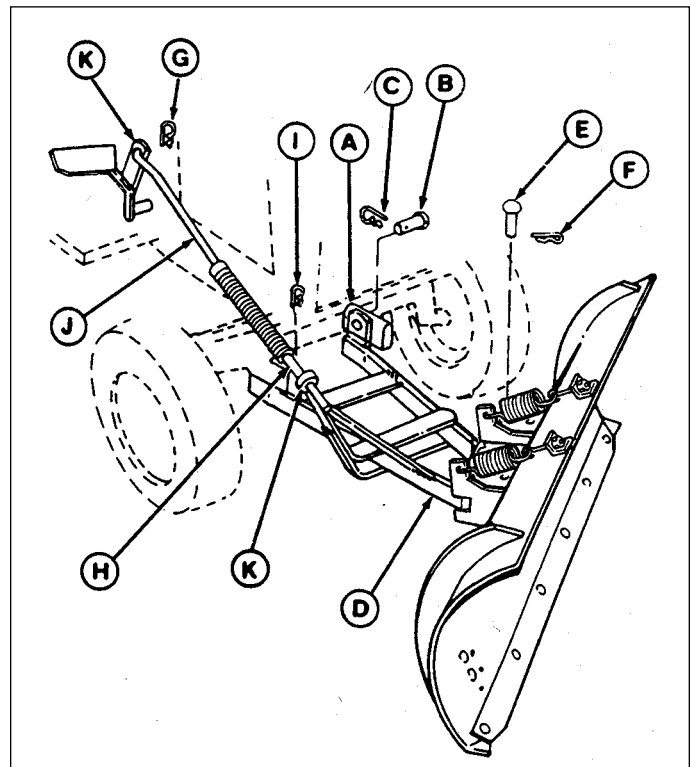

Figure 12. Push Bar Installation
3. Raise rear of push bar so its arms fit between lugs of hitch (A, Figure 12) just behind front axle. Use two clevis pins (B) and spring clips (C) to secure push bar to hitch.
4. Insert front of push bar (D) into pivot frame on rear of blade. Then install king pin (E) down through holes in hitch and pivot frame. Secure king pin with spring clip (F).
5. Insert prong of rod guide assembly (H) thru hole in upright of push bar. Secure with spring clip (I).
6. Connect rear of lift rod (J) to tractor lift arm (K) using spring clip (G).